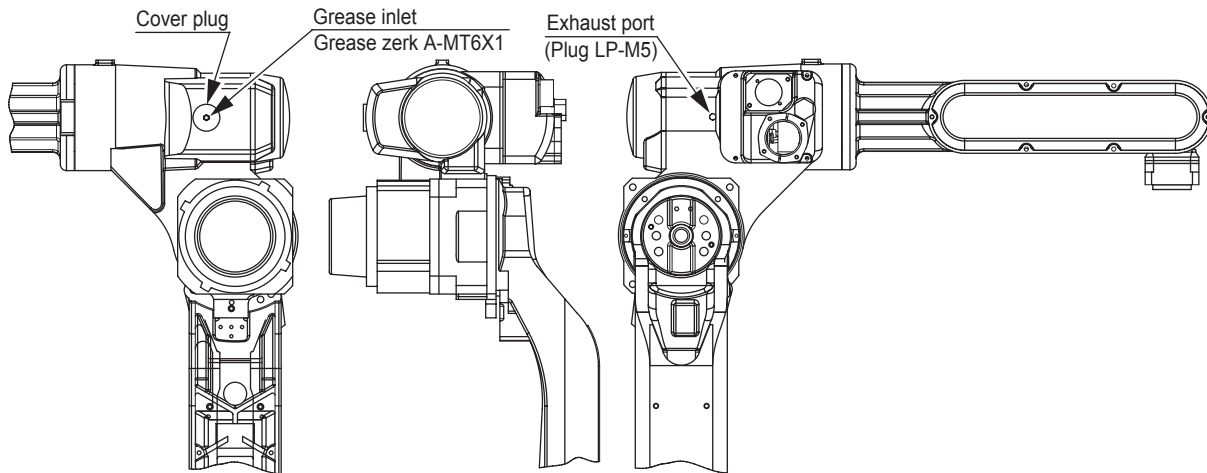

Fig. 31 (c) R-Axis Speed Reducer Diagram (For Serial Numbers RH9520-3121 and Over)
3. Inject grease into the grease inlet using a grease gun. (Refer to " Fig. 31 (c) R-Axis Speed Reducer Diagram (For Serial Numbers RH9520-3121 and Over) ".)